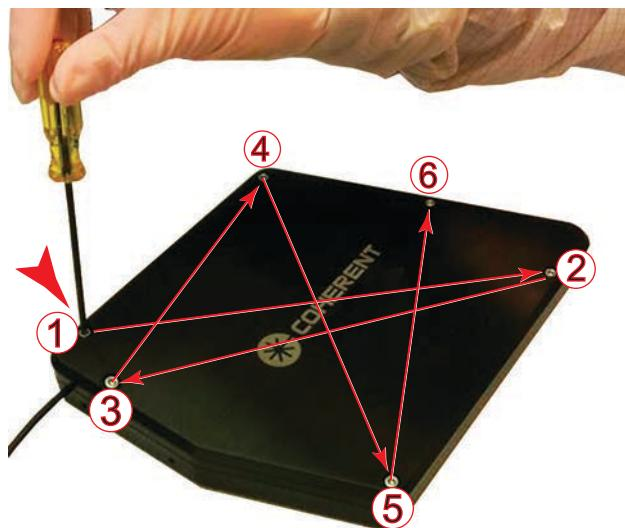

Figure 13-26. Tightening Pattern for Cover
9. Using the 7/64" hex wrench, secure the OBIS Galaxy box cover by firmly tightening the six top cover screws **in the sequence shown in Figure 13-26**.